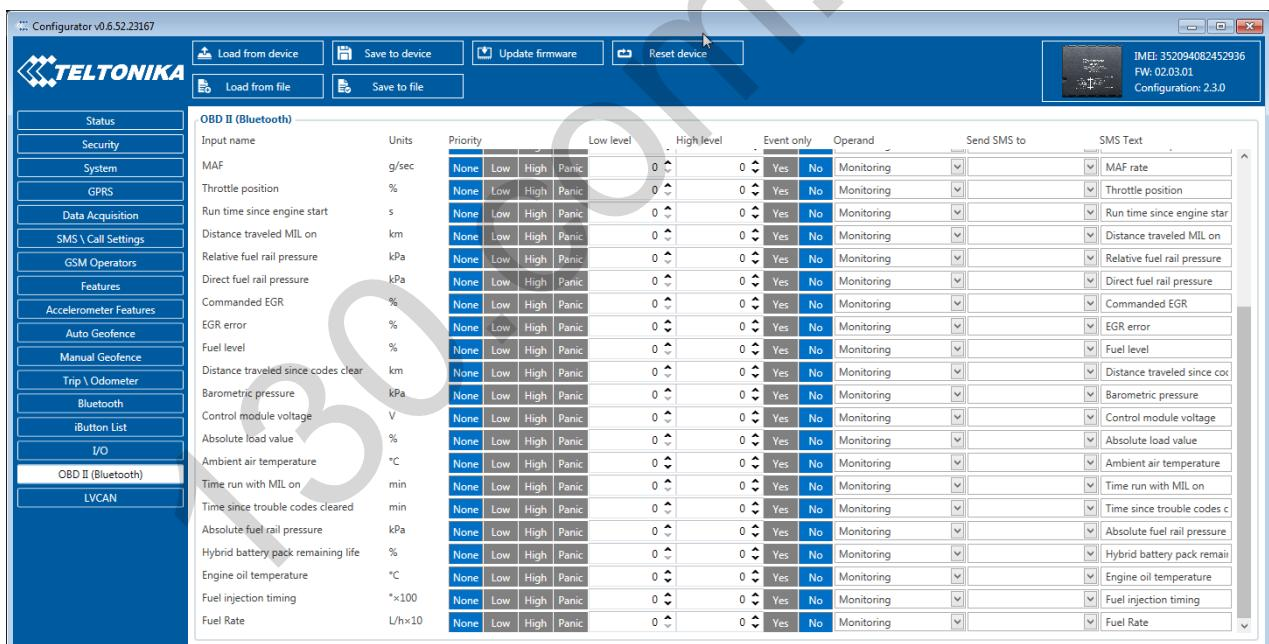

Figure 47 OBD II Bluetooth settings.
- Go to “OBD II (Bluetooth)” in left menu and select priority and others parameters visible at **Figure 47**.